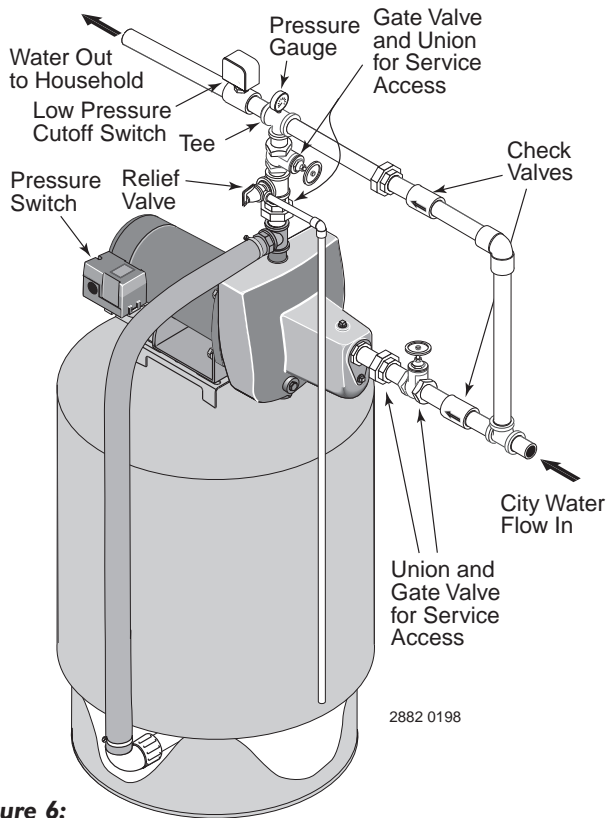

Figure 6:
2. Install pipe as shown (Figures 6 and 7). Be sure to include unions and stop valves so that pressure booster unit can be removed for service without interrupting household water supply. A spring loaded check valve ahead of the booster system and a low pressure cutoff switch after it are recommended (You may wish to replace the standard pressure switch with a pressure switch that includes a low pressure cutoff).